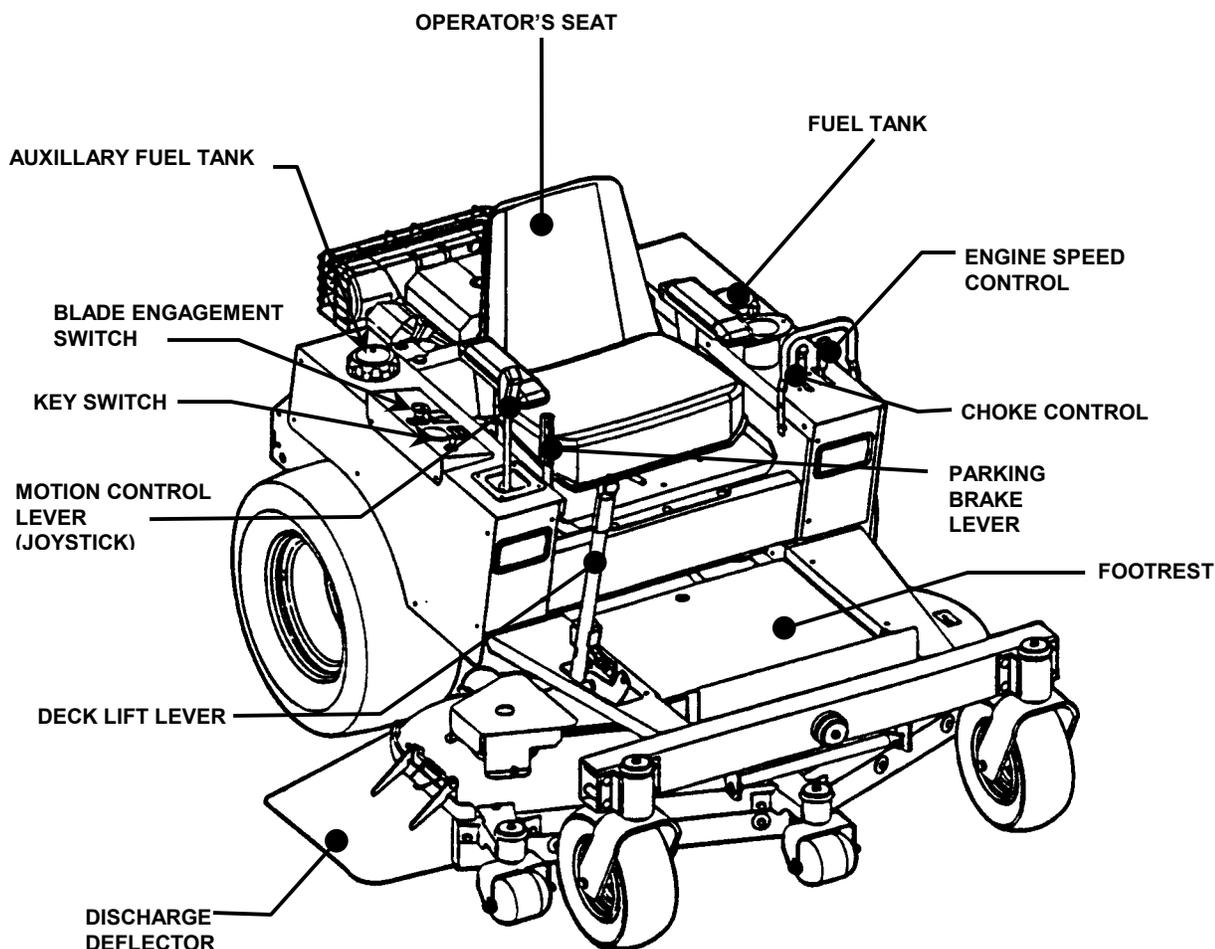

FIGURE 1.1
The nomenclature information above, Figure 1.1, shows the essential parts of the SNAPPER MID MOUNT Z-RIDER. It is recommended that all operator's of this equipment become thoroughly familiar with the controls, components, and operation of this machine before operating. Specific details involving the engine are found in the separate engine owner's manual. Study these manuals before operating and keep both handy for future reference. For the nearest SNAPPER dealer in your area, check the yellow pages under the heading LAWN MOWERS. For engine parts and service, look for the engine manufacturer's dealers under the heading, ENGINES - gasoline.
**2.1.8.** Place mower in desired cutting height setting. Grasp deck lift lever and depress release button located at tip of lever. Move lever to desired setting, 1 thru 7, and release latch. See Figure 1.1.